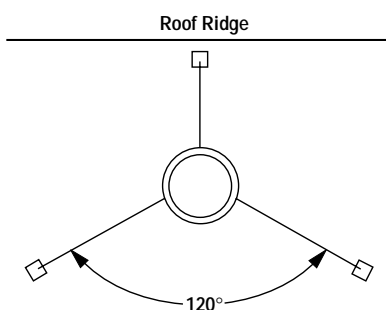

Figure 30
Note: If chimney extends more than 8' above roof surface, guy wires are also recommended. Use three (3) guy wires, attach to locking band assembly, extend and secure to roof in a triangular pattern (Figure 30). Guy wires are not supplied by the manufacturer.